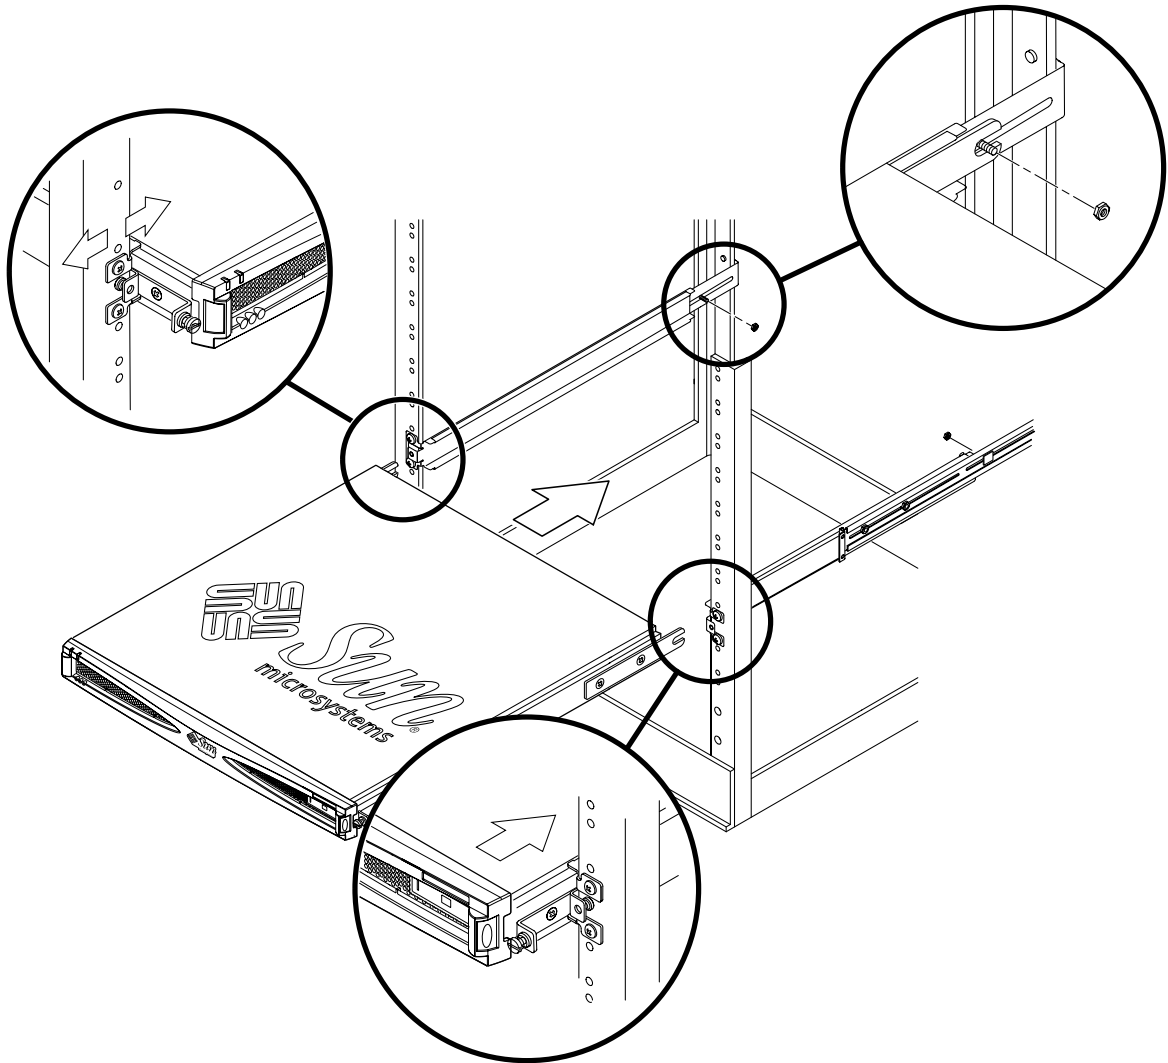

FIGURE 3-8 Sliding the Sun StorEdge S1 Array and Attaching It Into a Rack
- 12. **Slide the Sun StorEdge S1 array into the rack as far as it goes (FIGURE 3-8).**
- 14. Slide the stud from the stud plate as far as it can go into the open slot on the side bracket that is attached to the back of the array (FIGURE 3-8).**